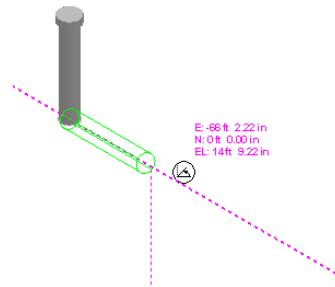

Figure 11: Specifications to Route a Pipe on the Route Pipe Ribbon
12. Route a pipe, as shown in Figure 11, by using the following specifications on the **Route Pipe** ribbon: